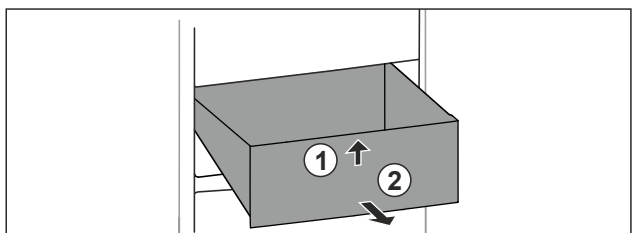

Fig. 59
- Lift up drawer at the front. Fig. 59 (1).
- Remove drawer to the front. Fig. 59 (2).